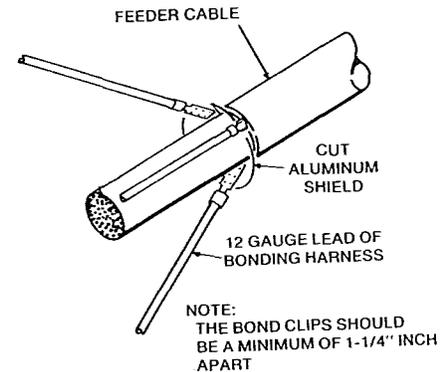

Figure 12. Feeder Cable with 12-Gauge Leads of Bonding Harness Attached
- 4.23 After all the long leads of the bonding harnesses have been crimped to the shield of the tip cables (Figure 12), wrap the butt of the tip cables with two layers of vinyl tape to reinforce the bond clip connections.